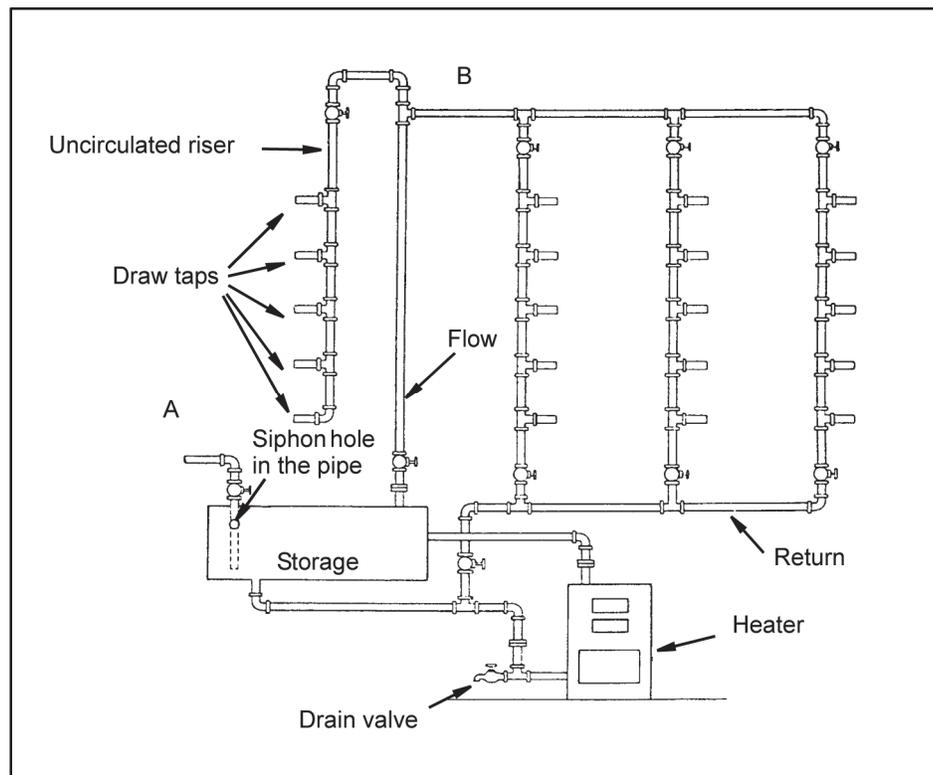

Figure 1-4. Circulating hot-water system (two-pipe)
1-48. To overcome this time lag, use a two-pipe, circulating-water supply system (figure 1-4). Hot water passes from the water heater through the main fixture supply risers and returns through a line to the water heater. This looped system circulates the hot water at all times. Warm water tends to rise and cold water tends to fall, creating circulation. The water within the loop is kept at a high temperature. When a tap is opened, hot water flows from the hot-water supply riser into the branch and out of the tap. The cold-water filler within the hot-water storage tank (water heater) has a siphon hole near the top of the tank. If reduced pressure occurs at point A, the siphon hole allows air to enter the cold-water filler. This breaks the vacuum and prevents back siphonage of hot water into the cold-water distribution system.
1-49. This circulating supply system (figure 1-4) is an overhead-feed and gravity-return system and is likely to become air-locked. An air lock prevents circulation of the hot water. Since air collects at the highest point (B) of the distribution piping, the most practical way to relieve the air lock is to connect an uncirculated riser to the line at that point. The air lock is relieved when a fixture on the uncirculated riser is used.